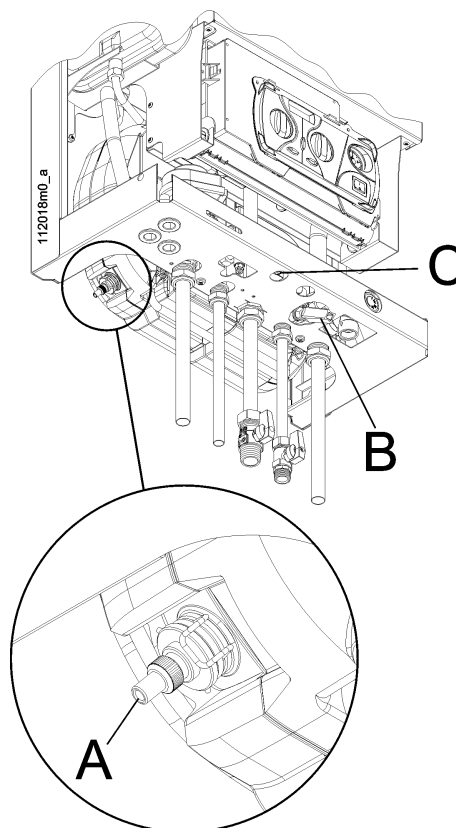

Figure 34 - Purge screw for the domestic hot water heat exchanger
1. connect a rubber tube to the pressure coupling "A" shown in figure 34 and place the end in an empty bucket or sink;
2. loosen screw "A" as shown in figure 34 until air can be heard escaping;